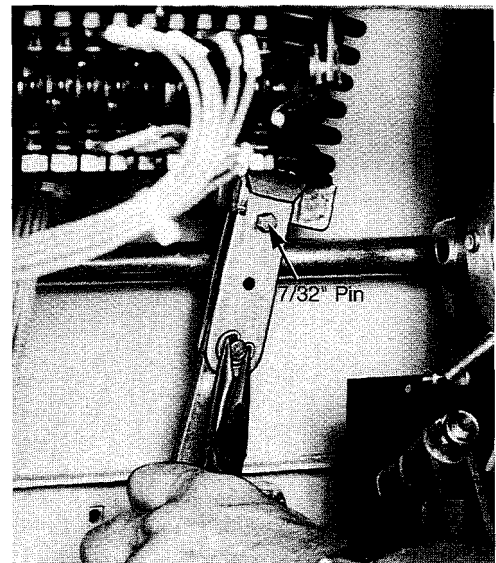

Figure 37: Disconnecting opening springs
7. Release the handle. The force of the springs should now be held on the inserted blocking pins or bolts (figure 37).
8. Remove the spring clip and mounting pin to uncouple each opening spring assembly from the spring connecting link (figure 37).